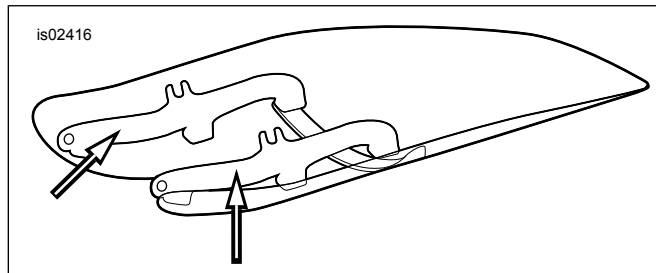
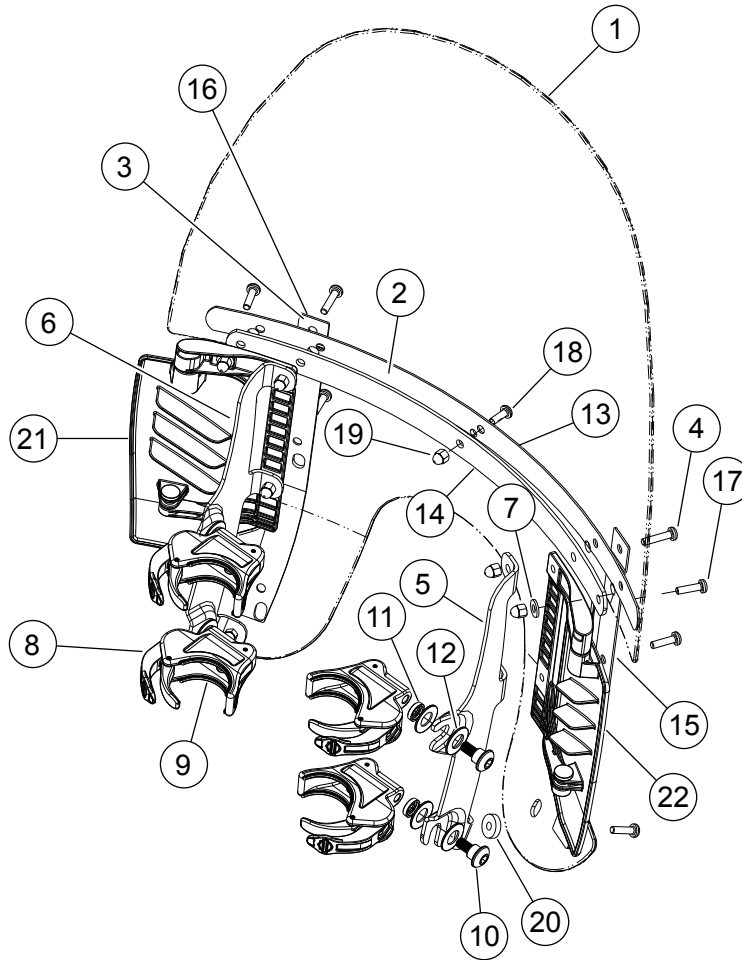

Figure 1. Windshield Mounting Brackets
Figure 3. Service Parts: Vented Detachable Windshield
1. See Figure 1. Remove the windshield sub-assembly from the packaging and place face down on a clean, soft surface with the mount brackets facing upward.
2. See Figure 1, Figure 2, and Figure 3. Remove both the clamp and hardware kits from the packaging, and separate similar parts in preparation for assembly.